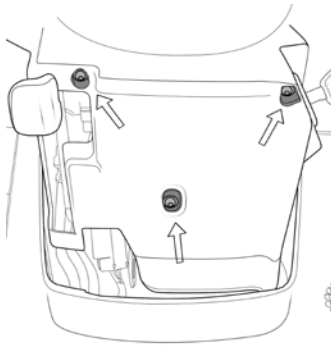

Figure 49
- c. Remove the three T-20 Torx head screws from the lower steering wheel trim panel (fig 49)